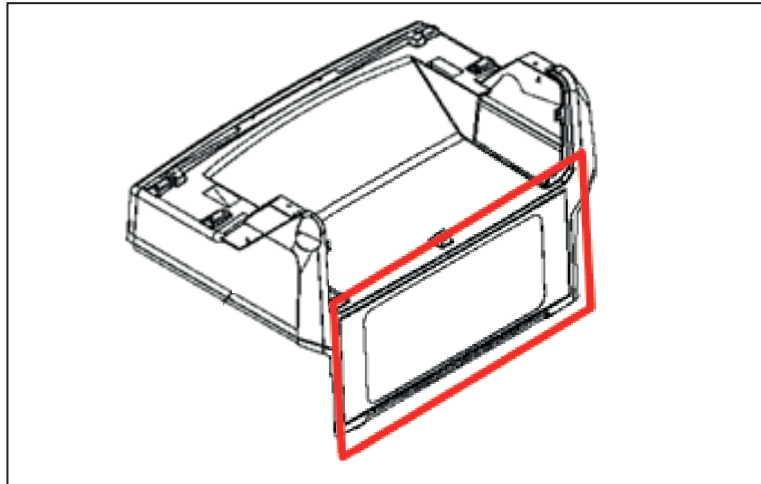
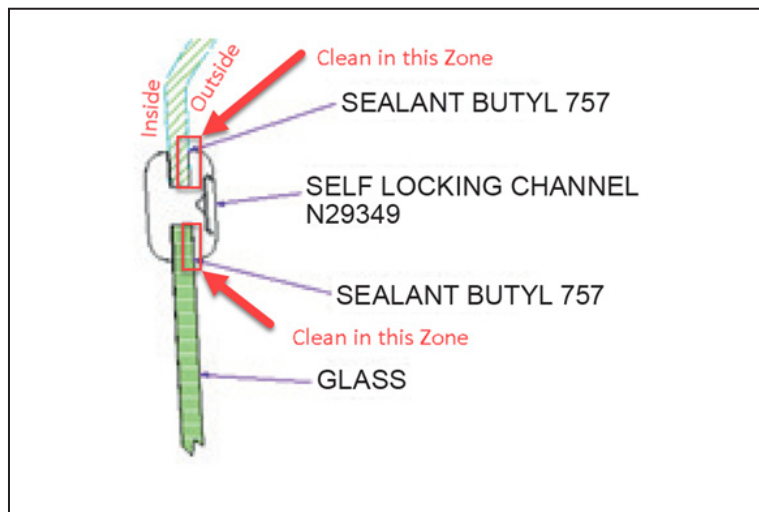

Figure 3 - Rear Window Cleaning
Figure 4 - Cleaning around the window
- 1.5. Clear the zone around rear window (see figure 3); Check if there is any residue (sand and salt) between the glass/Rear shell and the gasket (Use the flexible-tab glass insertion tool like figure 6) (see figure 4). Clean with soapy water and dry well with a clean cloth. If necessary, clean also around the gasket inside of the bus.